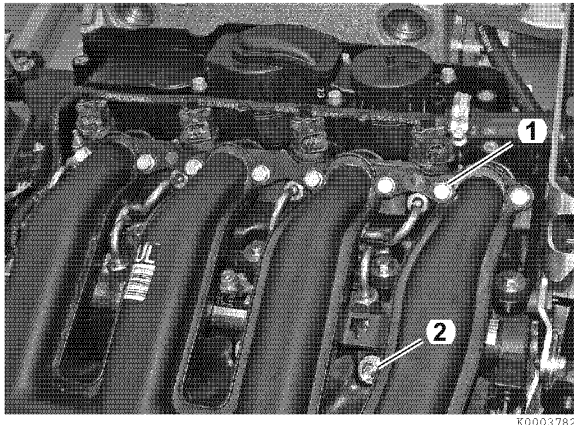

Figure 5-130
- Remove bolts (1, **Figure 5-130**).
- Remove nuts (2, **Figure 5-130**).